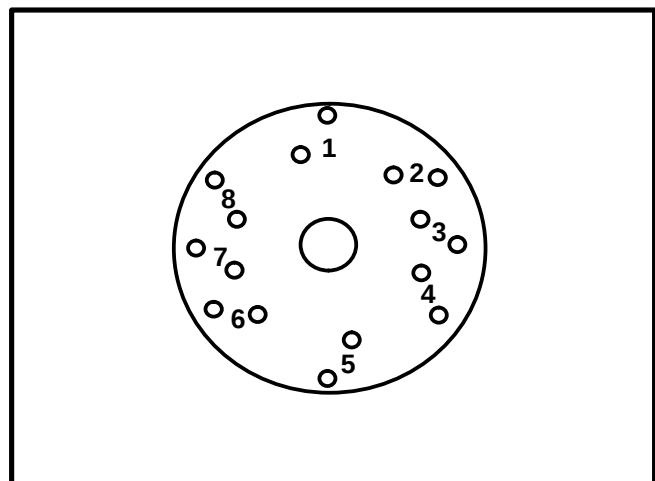

FIGURE 14
- Read across to determine number of dog(s) required and their position on the dog wheel. See Figure 14.